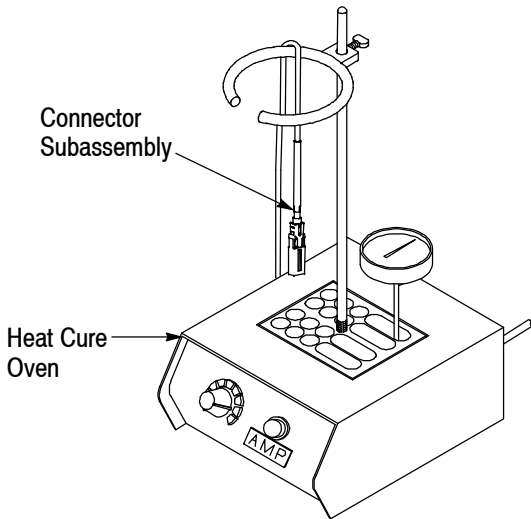

Figure 7
1. Place the connector subassembly in the heat cure oven according to the instructions packaged with the oven. Refer to Figure 7. Cure the epoxy between 115° and 120°C [239° and 257° F] for a minimum of 15 minutes.